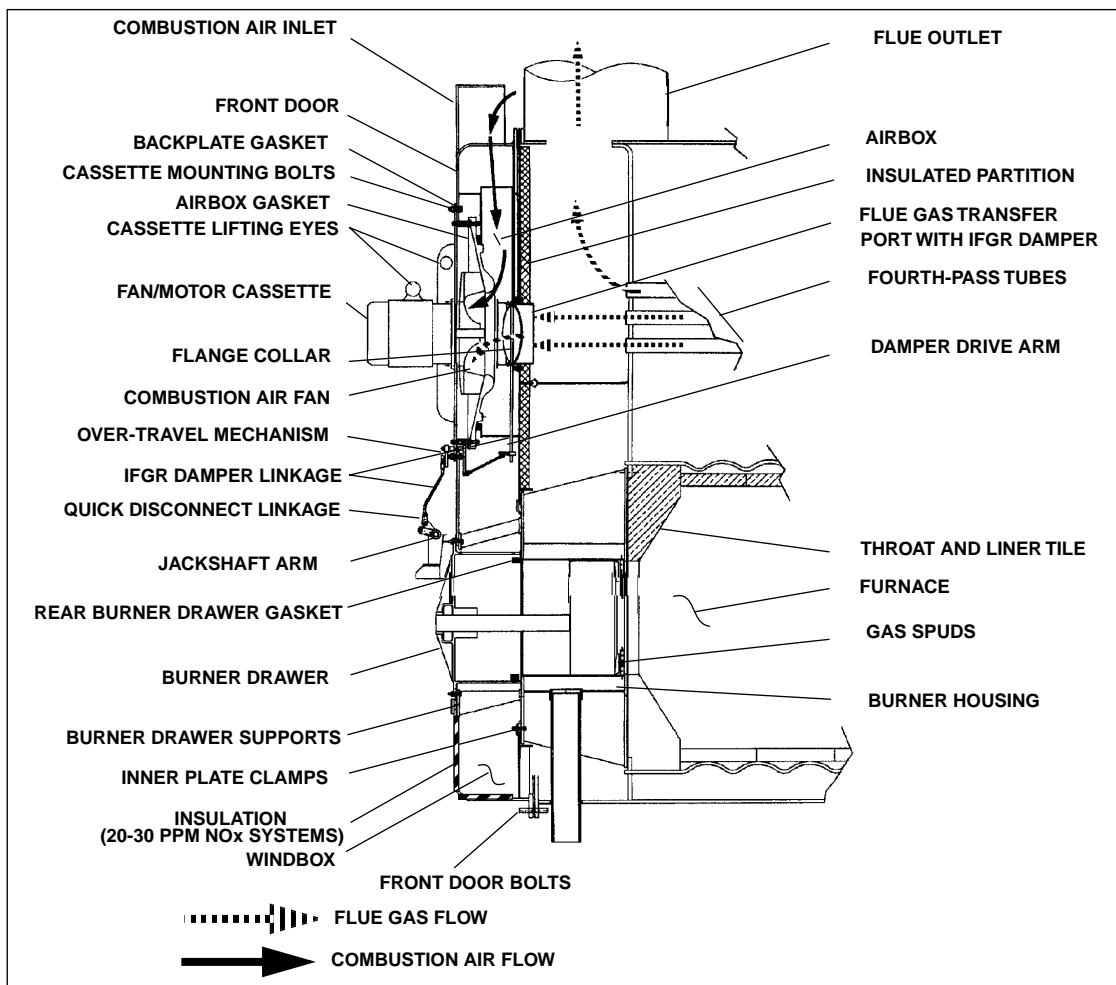

Figure: 1-14 Induced Flue Gas Recirculation System, General Arrangement
1. Flue Gas Transfer Port, IFGR Damper, and Flange Collar (Figure 1-14). The flue gas transfer port is a tube that allows the flue gases to travel from the exit of the fourth-pass tubes to the entrance of the combustion air fan.
3. Over-Travel Mechanism (Figures 1-14 and 1-15). The over-travel mechanism has two functions. It allows the linkage to pass through the front door, and it allows jackshaft rotation to exceed (over travel) IFGR linkage
6. Burner Drawer (Figure 1-14). The gas spudding pattern for the IFGR system may be different than that of a non-IFGR, High-Turndown CB Burner of the same horsepower (HP) model designation.
7. Combustion Air Inlet (Figure 1-14). The combustion air inlets are located at the top of the front door. Air enters from the rear of the air inlet shrouds, which reduces the sound level and captures heat from the boiler and stack flue outlet.
8. Front Door Insulation (Figure 1-14). If  $\text{NO}_x$  emissions are below 60 PPM, the front door is insulated inside to control temperature build up. The insulation is held in place with wire mesh.